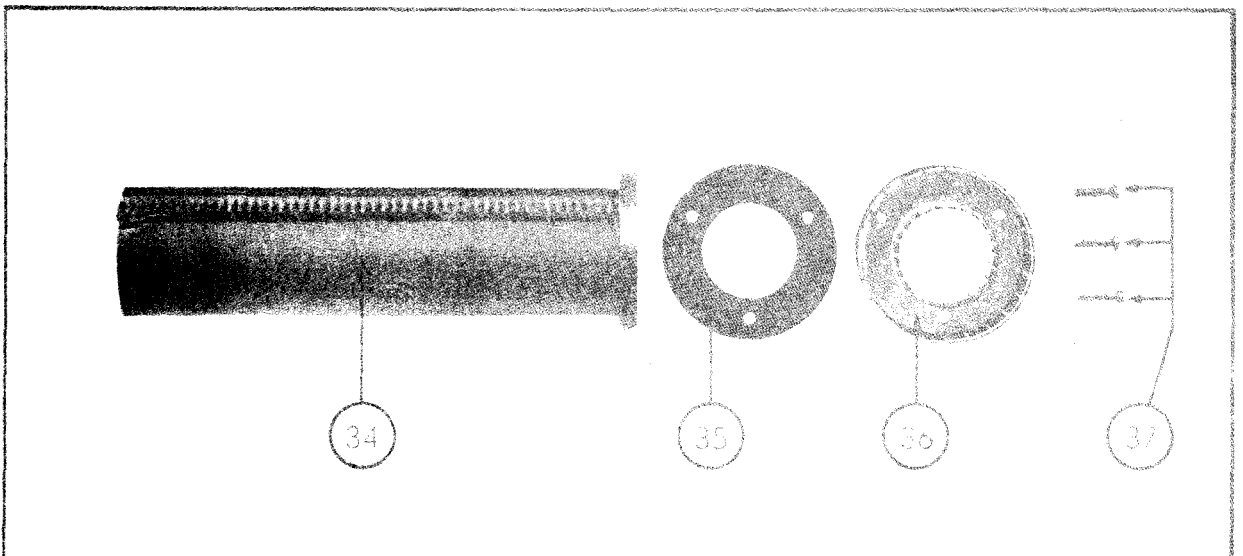
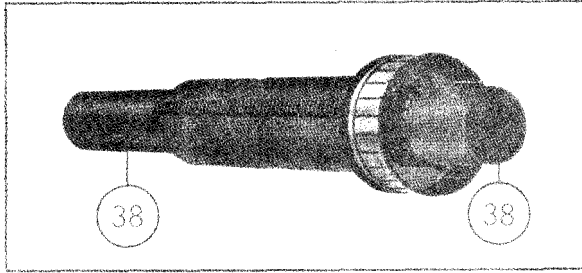

Figure 4-25. Parts Comprising Brush Assembly
Figure 4-26. Alignment of Brush Assembly
Figures 4-25 and 4-27 show the assembly of the cavity wiper carriage. The cavity inner conductor (38) should be used to align the parts as shown in figure 4-26 before the 4-40 x 3/8 inch screws (37) are tightened. It is important that the wiper (36) be well centralized and that all of the wiper contacts on the inner circle make good contact with the inner conductor before the screws are tightened. The screws should then be tightened a little at a time without disturbing the alignment of the system. If the wiper is not properly aligned, the *oscillat* will be inoperative or erratic. Remove the inner conductor from the assembly.